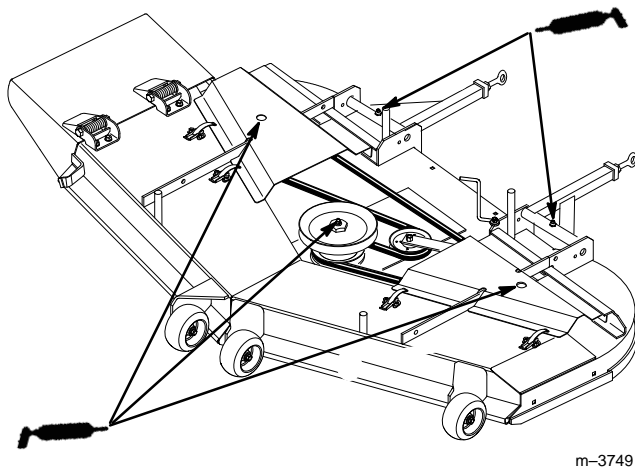

Figure 47
2. Grease the fittings on the three spindle bearings (Fig. 47).
3. Grease the fittings on the push arms(Fig. 47).